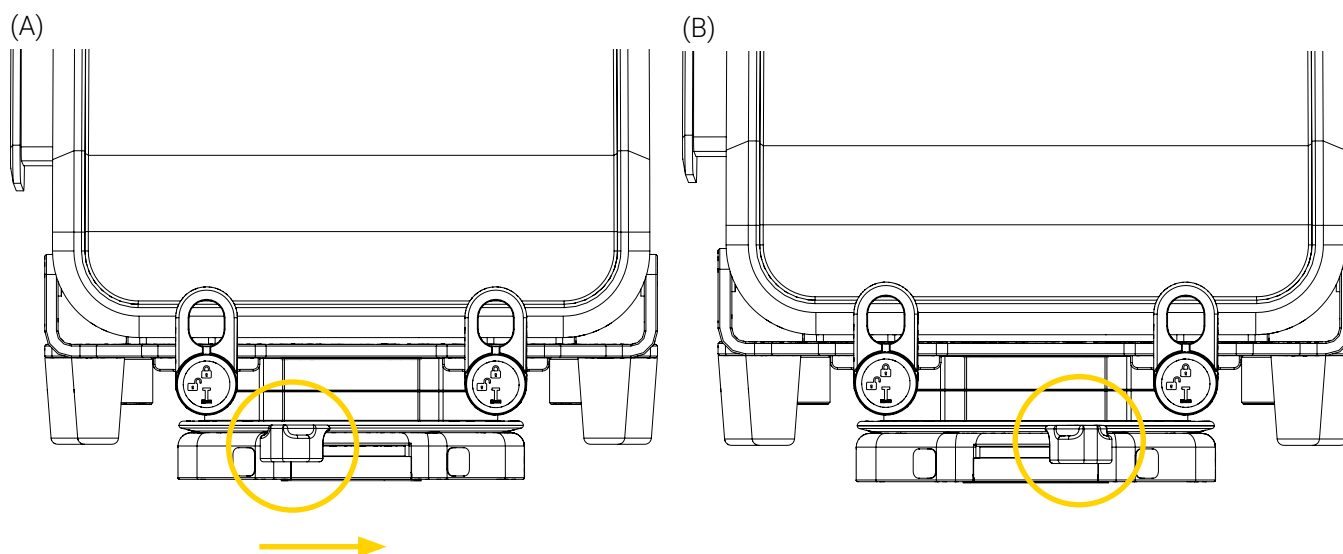

Figure 7: Locking the base
4. Slide the lever of the quick release mechanism to the right in the locked position  (Figure 7) to lock the base and secure the medical device.